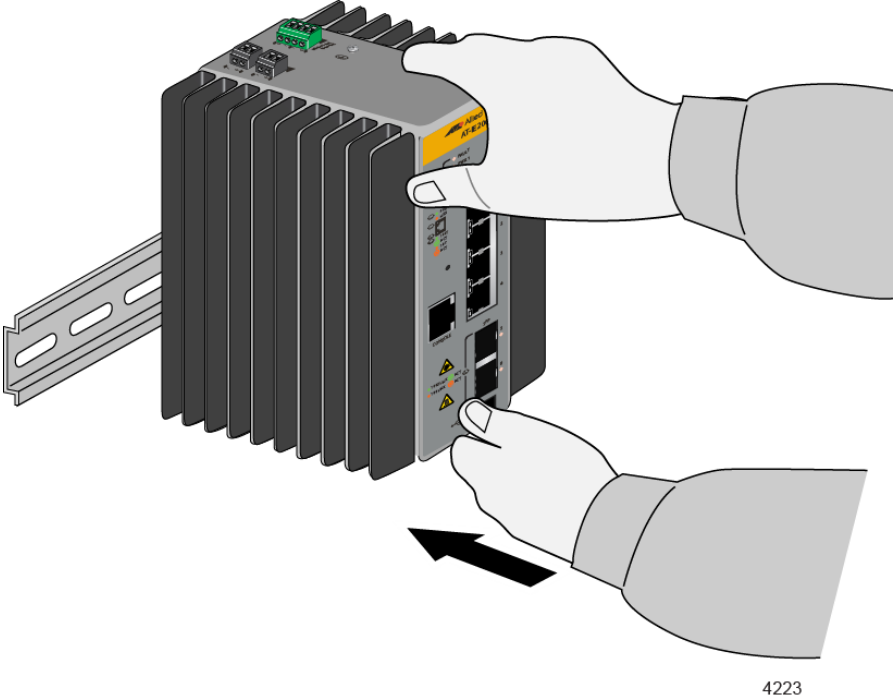

Figure 19. Installing the Switch on a DIN Rail - 2
- 2. Press on the bottom edge of the front faceplate of the switch until the bottom edge of the DIN rail snaps into the bottom slot of the bracket. Refer to Figure 19.